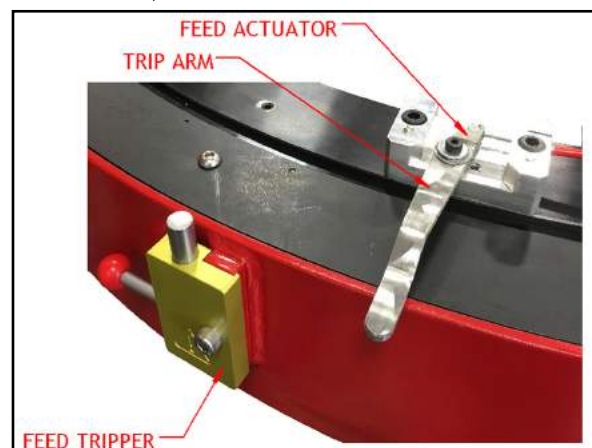

FIGURE 3-12. FEED TRIPPER LOCATION
1. Install the feed trippers as required (see Figure 3-12).